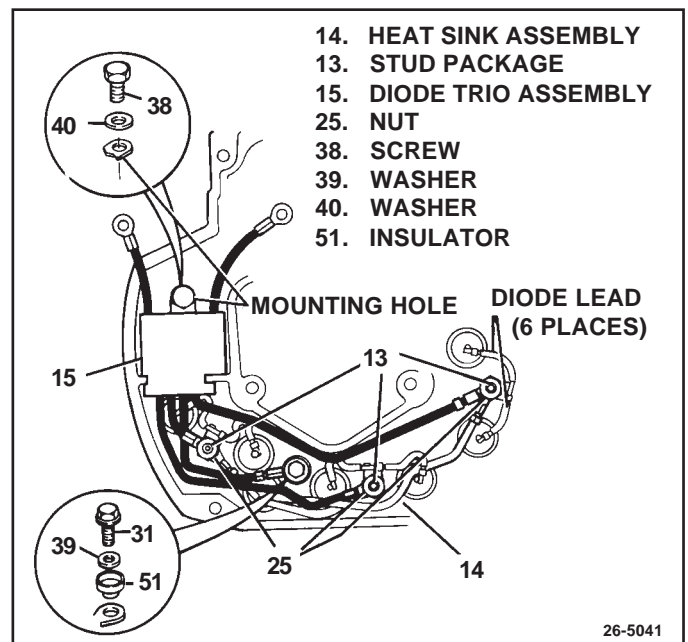

Figure 40. Installing Diode Trio Assembly
18. Install diode trio assembly (15) to rectifier end housing. (See Fig. 40) Install diode trio and capacitor attachment screw (38). This screw provides a ground for the capacitor in the diode trio assembly and must hold tab securely. Tighten to 3 N.m (26 lb. in.).
- Place clip of red diode trio lead over hole in heat sink, then install insulator (51), flat washer (39), and heat sink attachment screw (31). (See Fig. 40)